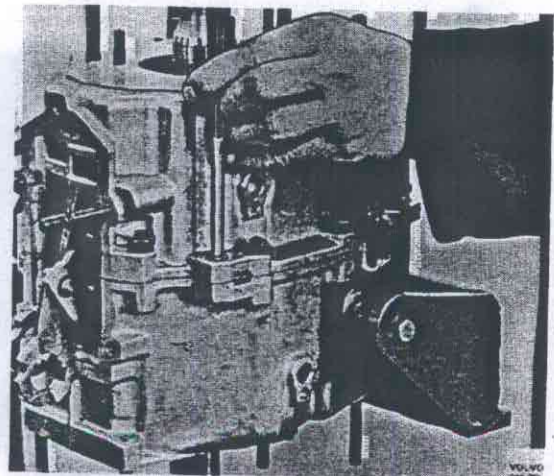

Fig. 43-58. Driving out guide pin
18. Knock out both the guide pins holding together the gearbox housing halves, Fig. 43-58. Remove the nuts and the Allen bolts (6 mm = 1/4").